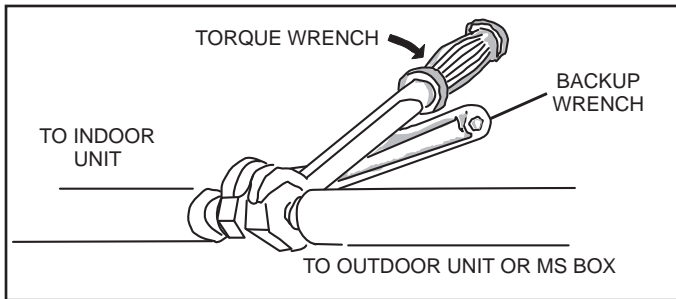
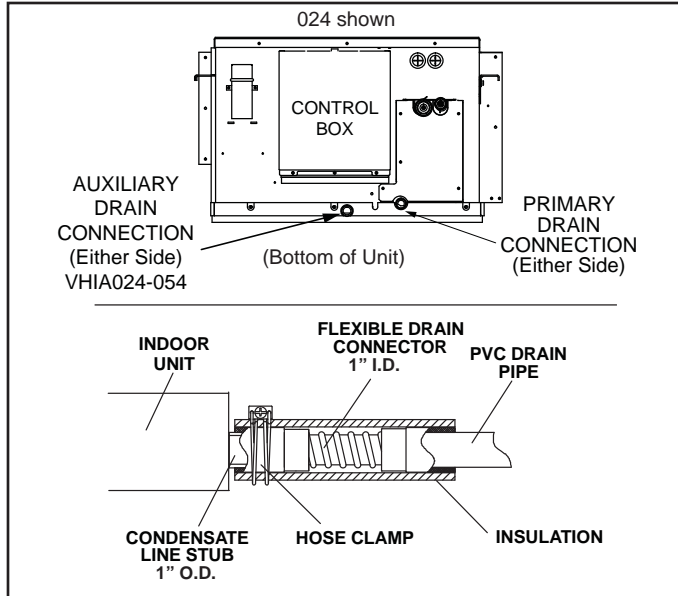

**Figure 5. Making Connections at Indoor Unit (Male to Female Connection)**
Figure 10. Condensate Drain Connection
6. If the unit is being installed in an application that includes a sheet rock (plasterboard) ceiling, it is required that an access panel be installed in a suitable location. This will also allow access for future maintenance (requirement of Lennox warranty program). Access is required during the commissioning process to test the condensate disposal system (See Figures 10, 11 and 12), to check the electronic expansion valve and associated flare nuts (See Figure 5), and to check the local disconnect.
5. Apply recommended R-410A refrigerant lubricant to the outside of the field-provided flared line sets (Figure 5 -- A).
6. Align the union tube and flared refrigerant lines with each other, then tighten the flare nuts lightly at first to obtain a smooth match (Figure 5 -- B).
1. Use the provided hose clamp to secure the provided flexible condensate drain connector and insulating sleeve to the drain line stub on the side of the indoor unit. See Figure 10.